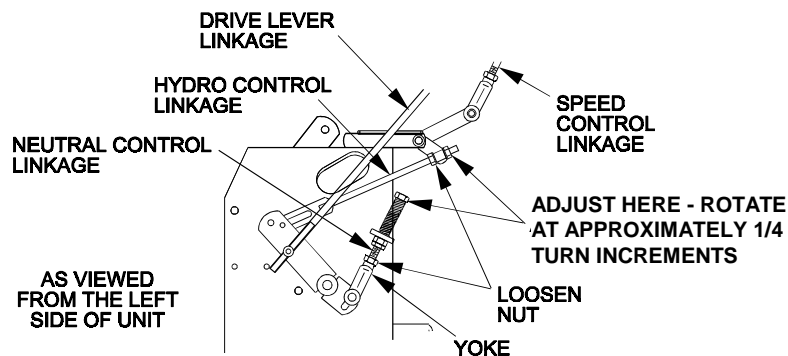
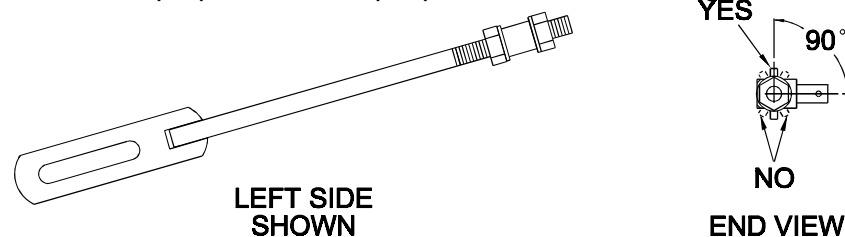

FIG. 9
FIG. 10
4. Loosen the nut against the yoke as shown in Figure 9.
2. Loosen the front nut on **left** hydro control link as shown in Figure 9. Turn the rear control linkage adjusting nut counter-clockwise until wheel rotates forward. Turn the rear nut of left control link clockwise 1/4 of a turn at a time, stopping to move the speed control forward and back to neutral, until left wheel stops rotating forward. Turn the nut an additional 1/2 turn and tighten the front jam nut making sure not to put a bind on the linkage. Make sure flat part of linkage is perpendicular to pin part of swivel. See Fig. 10.